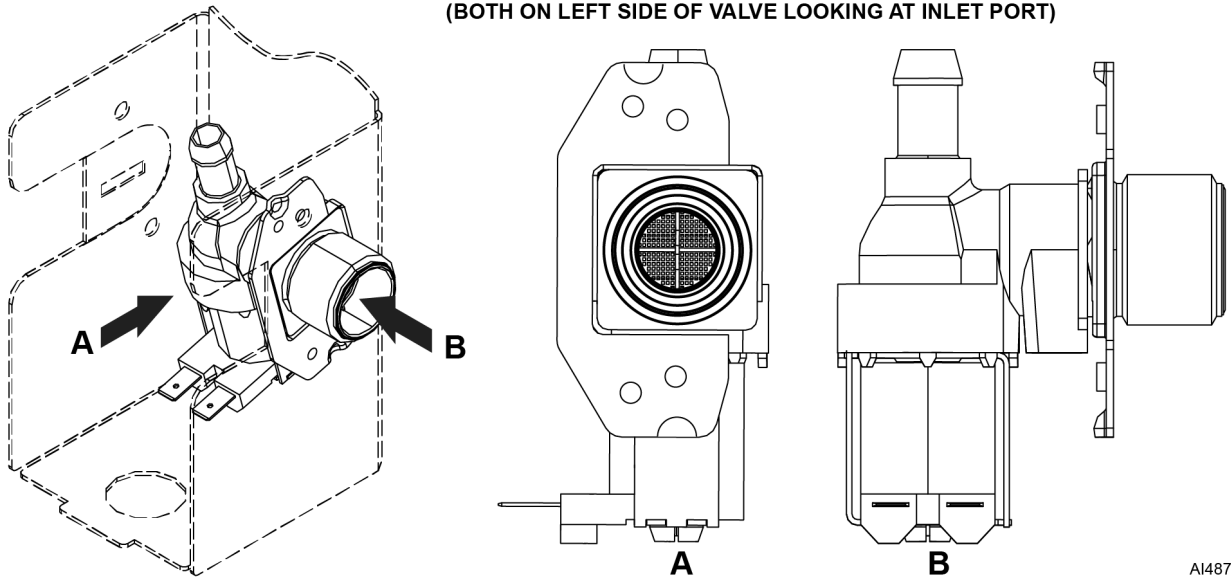
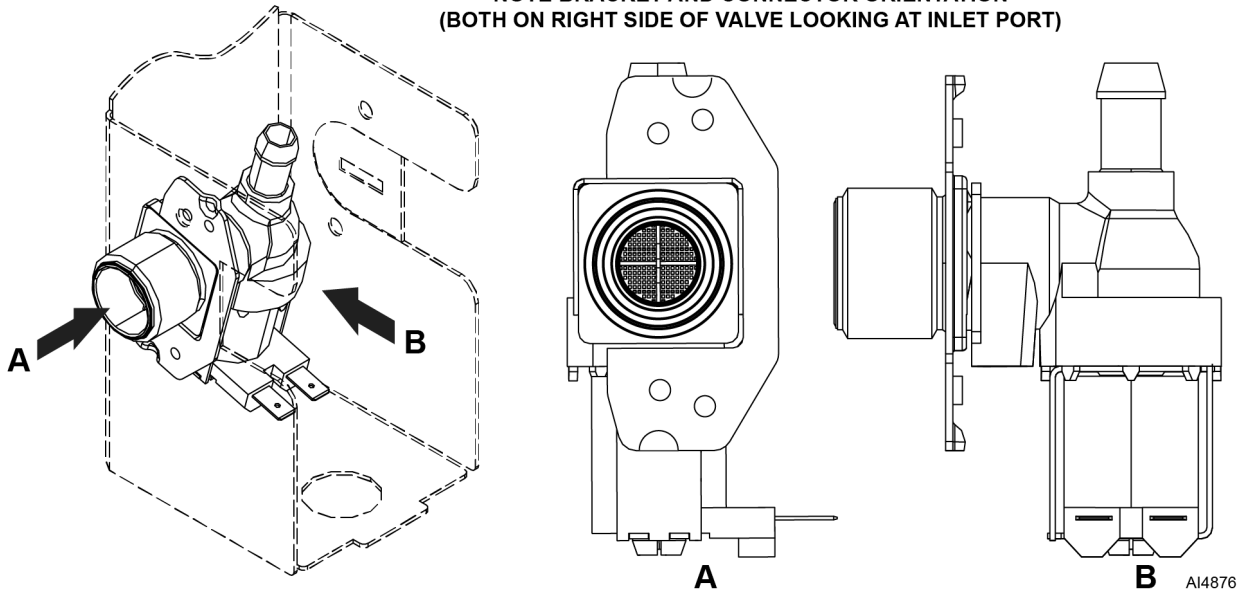

Fig. 8
Fig. 9
5. Look at valve assembly to determine if it needs to be reconfigured to properly fit in DWT mounting bracket. Refer to Fig. 8 and Fig. 9 for additional information.